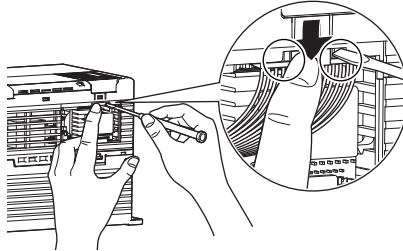

Figure 11 Unplugging the Drive Cable Connection (PS-V10M)
1. Unplug one end of the existing drive cable from its socket inside the drive as shown in **Figure 11**. Press inward on the cable release tab in the center of the cable connector and use a flat-blade screwdriver to gently pry down to remove the connector from its socket.